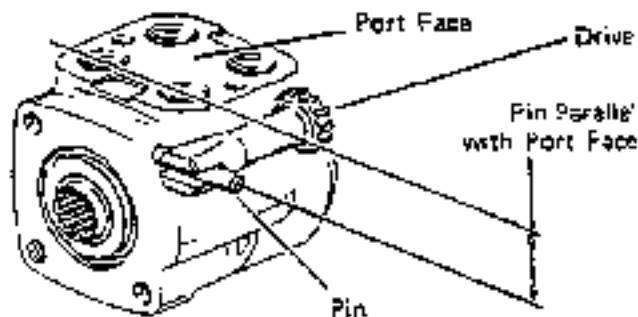
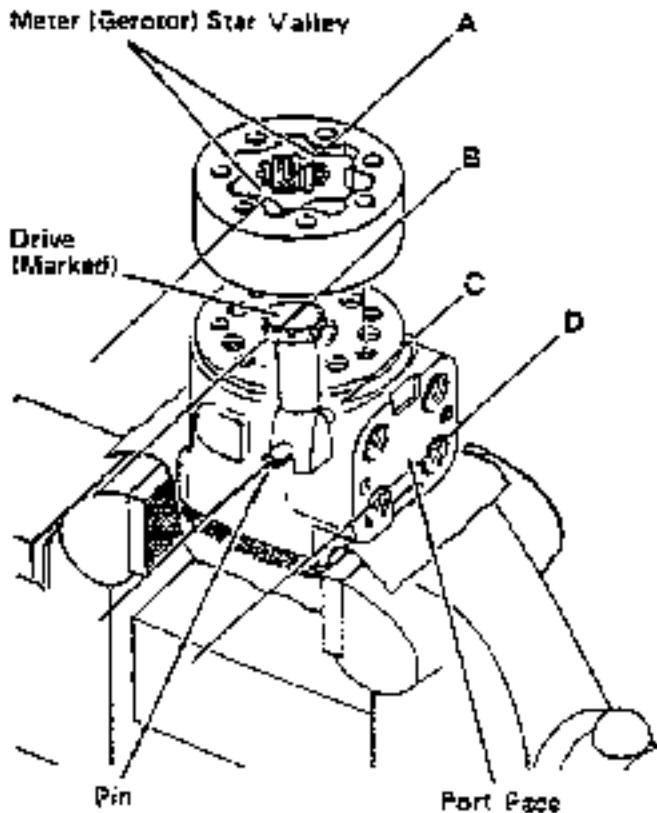

Figure 22
Figure 24
21. Rotate spool and sleeve assembly until pin is parallel with port face, see Fig. 22. Install drive. make sure you engage drive with pin. To assure proper alignment, mark drive as shown in Fig. 24 (ref. 3). Note relationship between slotted end of drive to splined end of drive when marking.
23. With seal side of meter toward spacer plate, align star valleys (ref. A) on drive (ref. B). Note the parallel relationship of reference lines A, B, C, and D - Fig. 24. Align bolt holes without disengaging meter from drive.